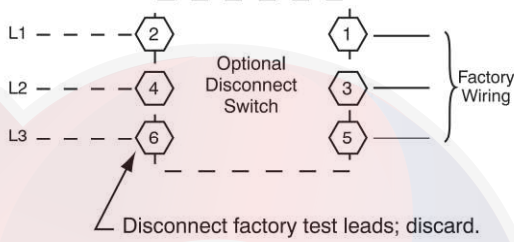

Fig. 43 — Power Wiring Connections
Size wire based on MCA (Minimum Circuit Amps) on the unit informative plate. See Fig. 43 and the unit label diagram for power wiring connections to the unit power terminal blocks and equipment ground. Maximum wire size is 2/0 AWG per pole.
switch handle is accessible through an opening in the access panel. Discard the factory test leads (see Fig. 43). The factory disconnect is an 80A disconnect.
2. Install power lines to terminal connections as shown in Fig. 43.